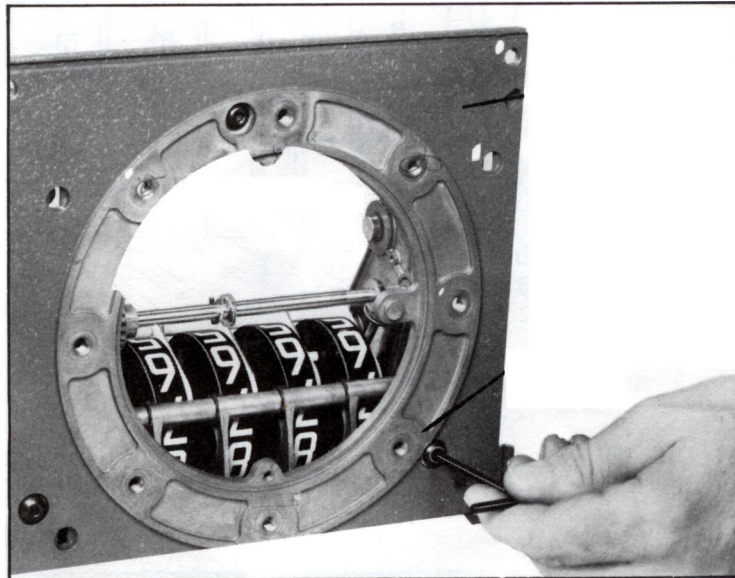

Figure 1
- Remove the 3 screws under the counter (figure 1)